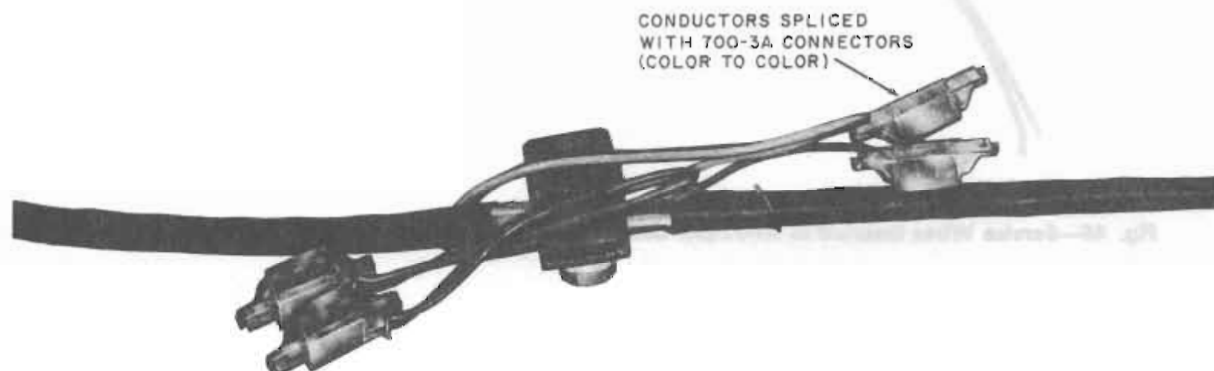
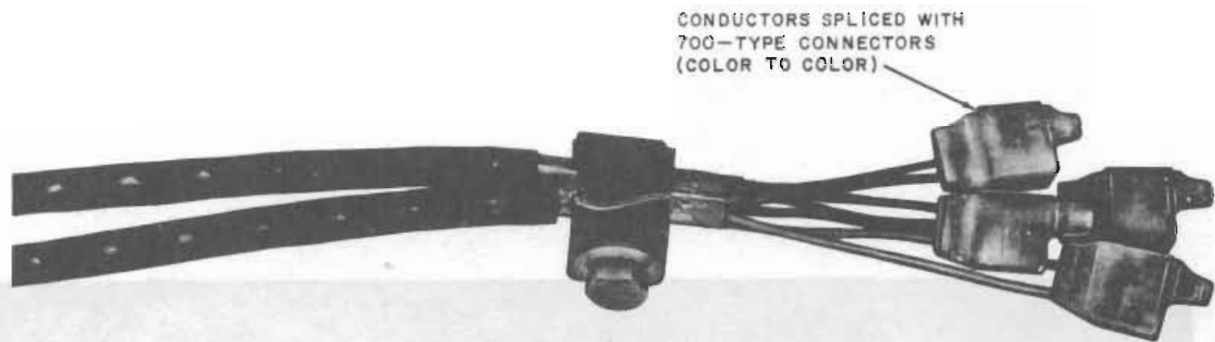

Fig. 47—Spliced Service Wires—Straight or In-Line—15-Type Closure
Fig. 48—Spliced Service Wires—Butt Splice—15-Type Closure
13.10 Using 700-type connector *only* splice the conductor as shown in Fig. 47 or Fig. 48. The E connector presser is used for installing the 700-type connectors.